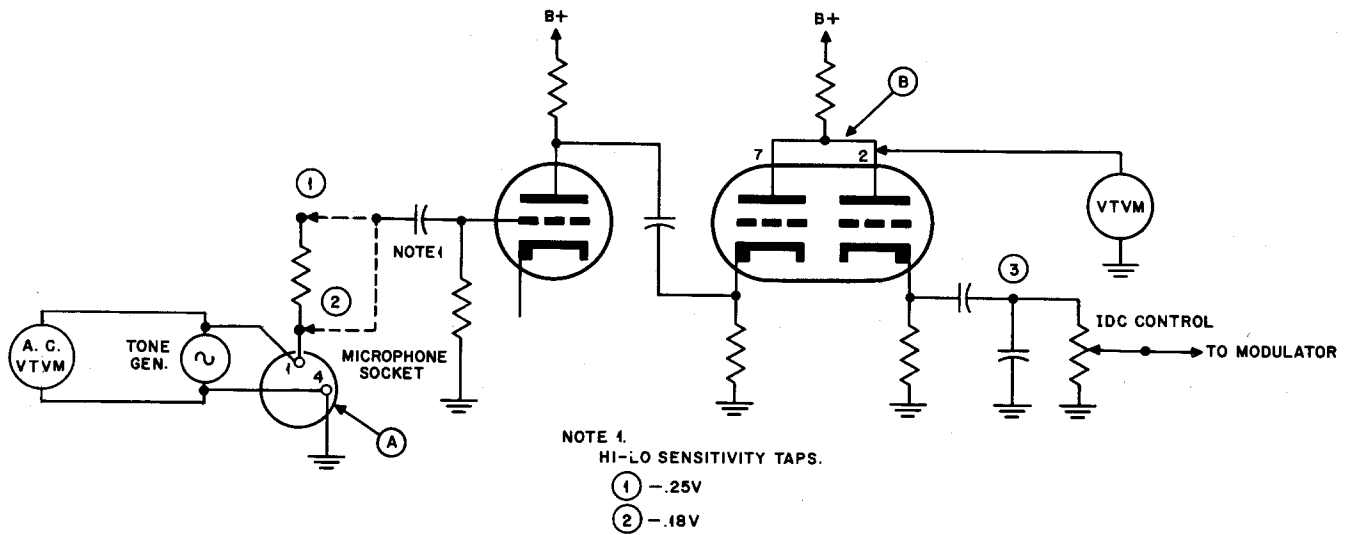

FIGURE 2.
Figure 2 gives the partial circuit of the audio stages in the transmitter. The specified input voltages for the various microphones are .18 and .25 volt at 1000 cps. The clipper prevents the audio voltage from rising too high on peaks and over modulating the transmitter. This clipping
3. Connect a vtvm on the d-c scale to pin 2 of the 6AL5 clipper tube and ground. Key transmitter by setting toggle switch to "on position". Increase tone output until the vtvm reading just begins to drop off. Connect an a-c vtvm (Motorola Model S1051B or equivalent) to the output leads of the tone generator connected to the microphone receptacle pins 1 & 2. Measure the input voltage at this point. A reading of .25 volts ± 3 db for input sensitivity tap at the .25 volt point (#1, Fig. 2) or a reading of .18 volts ± 3 db if sensitivity tap is at .18 volt point (#2, Fig. 2) is an indication of normal gain at this point. Readings higher than these would indicate low audio gain and difficulty would be experienced in modulating the transmitter properly with normal voice level. The low gain may be caused by low gain tubes, low voltages or defective component parts.